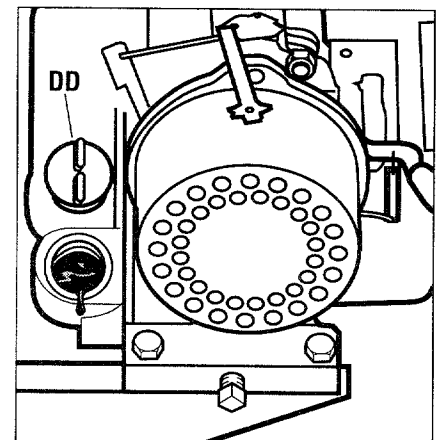

Fig. 2-11: Add motor oil to engine.
3. Unscrew the engine oil fill plug (DD, Fig. 2-11). Using a clean funnel, slowly add oil until the oil level reaches the overflow point in the oil fill tube. **ALWAYS**